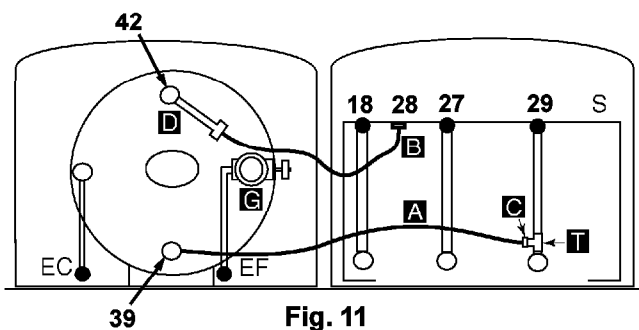

Fig. 11
Connect the short flexible pipe (B) between the hot water flow isolating valve (32 Fig. 11) and the inlet of the coil (42 Fig. 11) using tail (D Fig. 11). The long flexible pipe (A Fig. 11) should be connected between the outlet of the coil (39 Fig. 11) and the central heating return using the tee, which must be soldered onto the return tail (35 Fig. 11). Connect the cold water supply (EF) to the combination safety valve (G Fig. 11) using the short tail. Use the long tail to connect to the hot water outlet (EC).